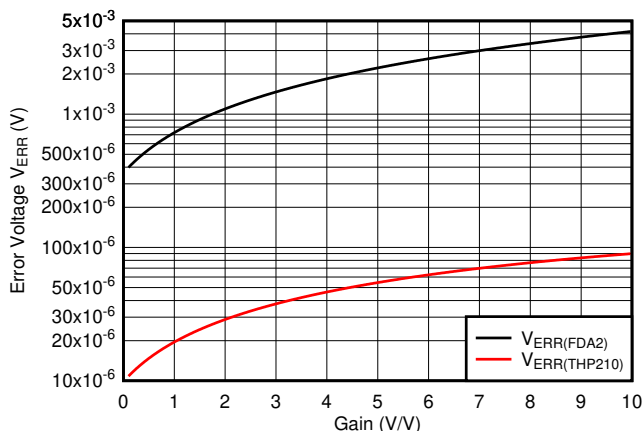
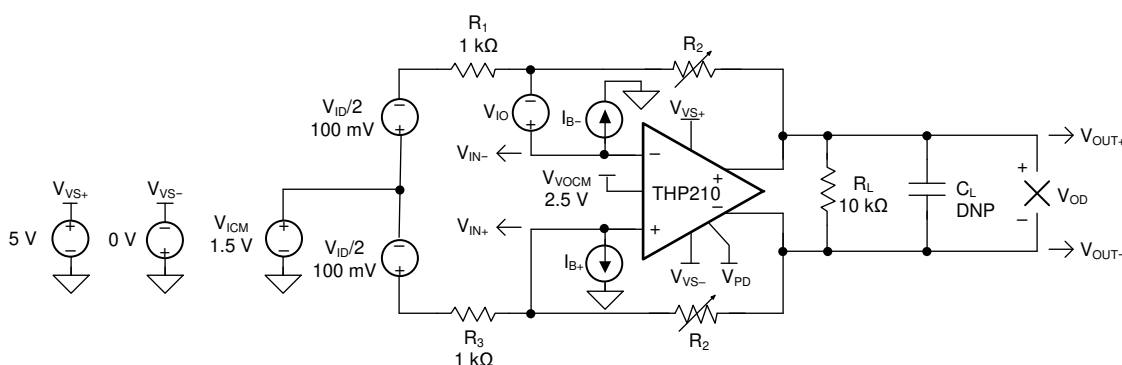

Figure 9-1. TINA-TI™ Software Simulation of DC Error Voltage at Different Gain Settings (Variable R2)
Figure 9-2. FDA DC Error Model
The THP210 super-beta input device features extremely-low input bias current, trimmed low input offset voltage, and the lowest offset drift over the full temperature operating range. These features allow the device to produce a negligible initial error band at 25°C, but also exceptional robust behavior over temperature. The red curve in Figure 9-1 showcases a simulation of the total dc error voltage at 25°C versus different gain configurations based on the application configuration shown in Figure 9-2.
- Circuit configuration as shown in Figure 9-2